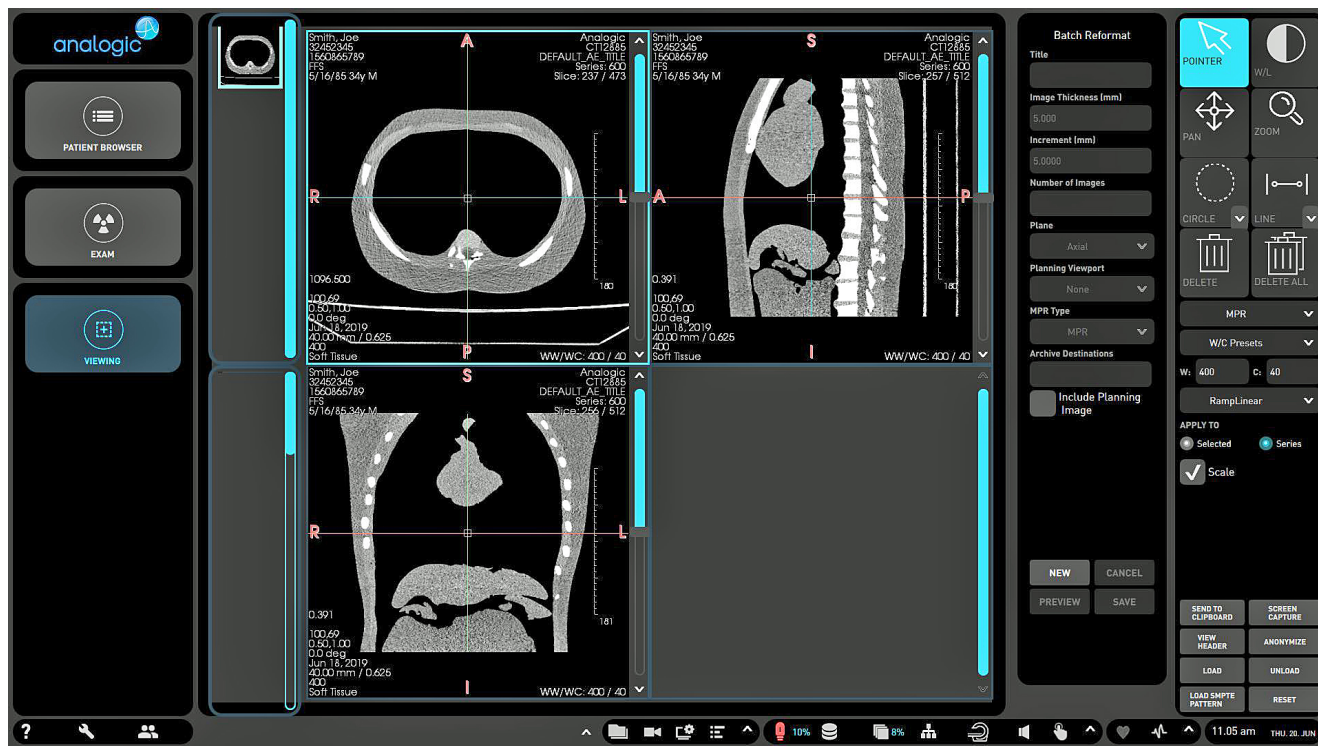

FIGURE 5.38 MPR Images
6. Click VIEWING. This loads a patient data set into VIEWING and switches to MPR. FIGURE 5.38 displays.